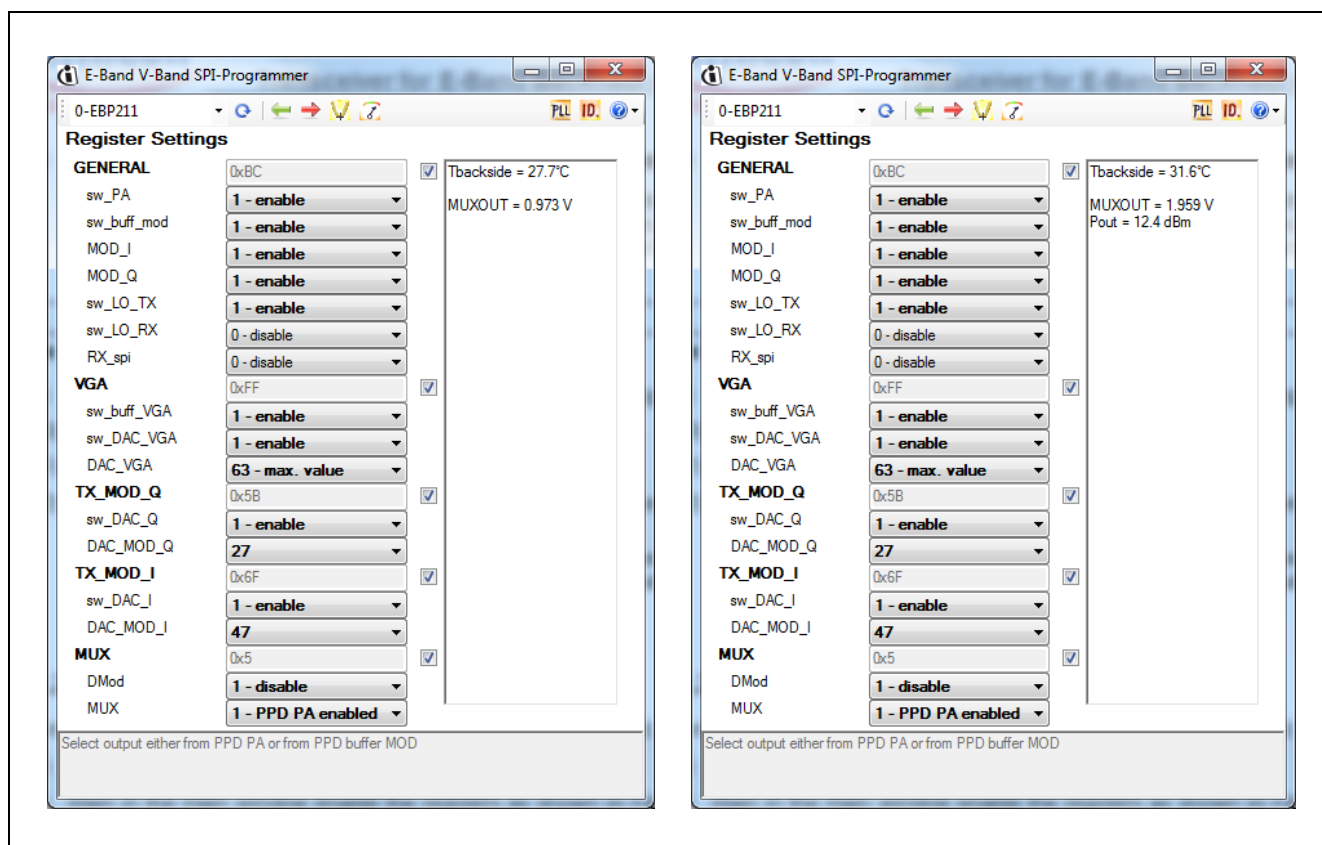

Figure 24 Typical Transmitter Settings for the BGT60
- 8) Before you proceed to this step make sure that there is **no IF signal applied to the TX IF inputs**. Then in the main window press  button. This step will automatically execute the LO leakage calibration and set the right value to the **DAC_MOD_Q** and **DAC_MOD_I** registers. The current consumption in this case will jump to 550mA. The typical setting for the Transmitter would look like as shown in **Figure 24**. After LO calibration is done, IF can be applied to TX IF inputs of BGT60.